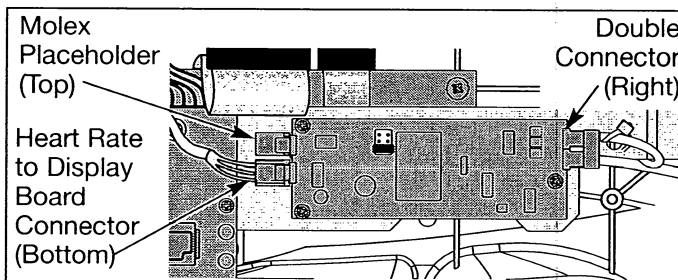

Figure 25
- B. If you're not replacing the cable, disconnect the two cables and one molex placeholder from the heart rate board. (You will re-attach the molex connector in step 4A). See Figure 25.
- A. Locate the side of the heart rate board with the two holes and place the molex placeholder over the top three pins. See Figure 25.
- A. Connect the double connector into the right side of the heart rate board. See Figure 25.
- A. Confirm that the two cables and one molex placeholder are firmly connected to the heart rate board in their proper places. See Figure 25.